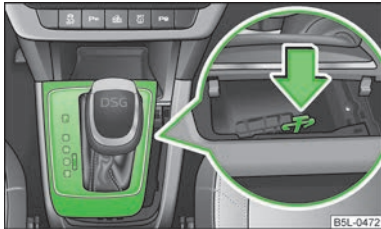

Fig. 109
- > Use a finger to press the yellow plastic part in the direction of the arrow » Fig. 109.